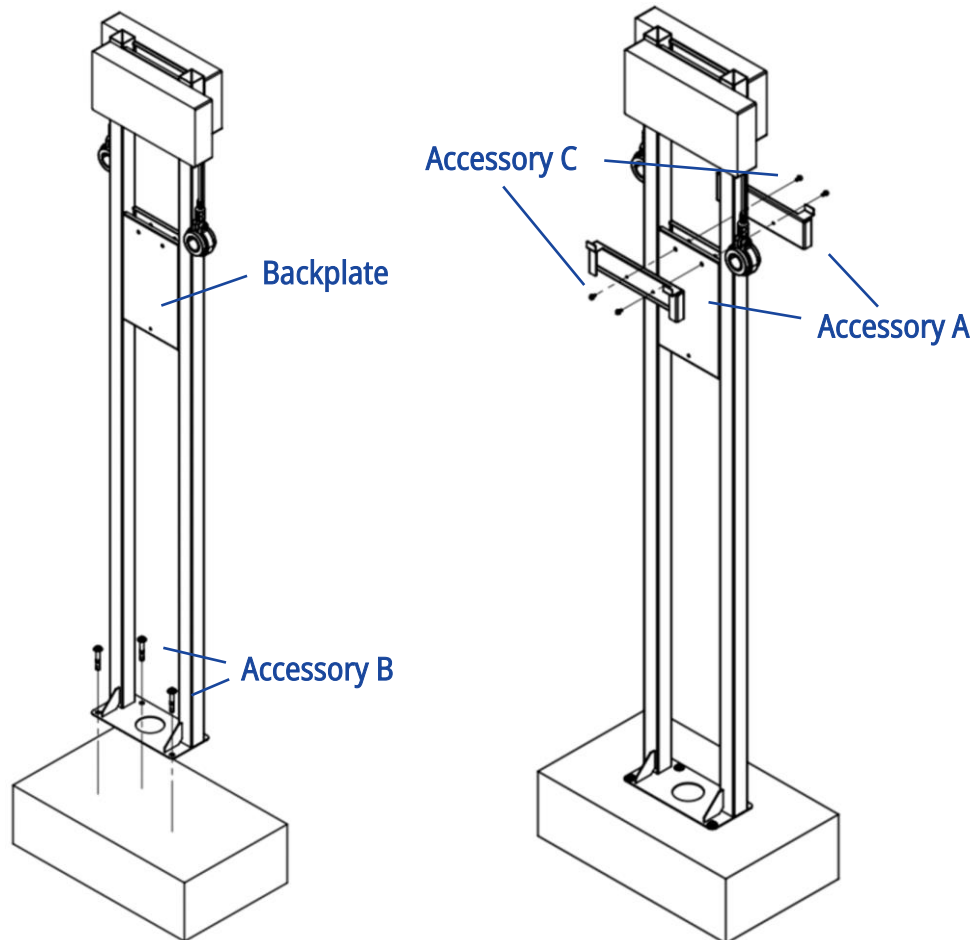

Figure 4.8 Installing the Mounting Pole and Positioning Plate(s)
- 1) Drill 4 holes in the base or the pedestal where the pole is intended to be installed. Use the four M8x80 screws (pole-mounting **Accessory B**, see Table 3.3 on Page 14) to fix the pole to the ground (see left side of Figure 4.8).
- 2) Determine the side(s) where the charger(s) will be installed; locate the backplate of the corresponding side in the upper middle part of the pole (see Figure 4.8).
- 3) Use two M4x12 screws (pole-mounting **Accessory C**) to install the positioning plate (pole-mounting **Accessory A**) on the two upper screw holes of the backplate (see right side of **Figure 4.8**).